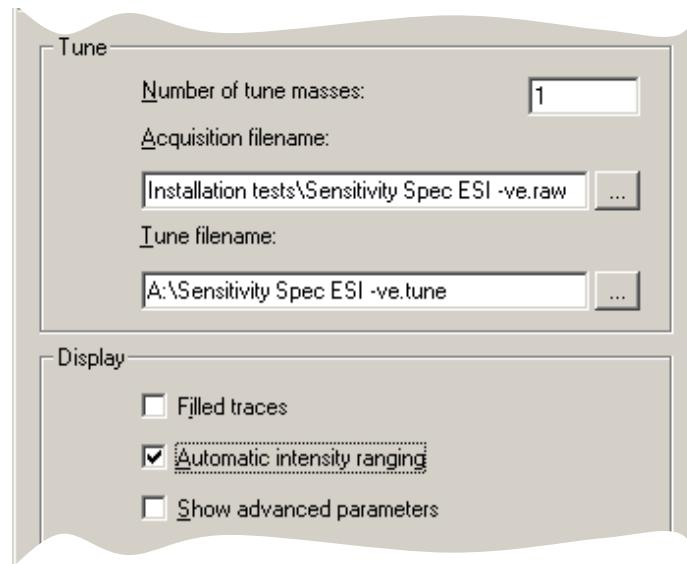

Figure 2-26. Tune Options window – APCI -ve
- Using the button to the right of “Acquisition filename,” browse through to **C:\Xcalibur\Installation\Installation tests** and type in: **Sensitivity Spec ESI -ve.raw** and check that the Tune filename is **A:\Sensitivity Spec ESI -ve.tune** (see Figure 2-26). Continue as before, but use the 0.2pg/µL p-Nitrophenol test sample.